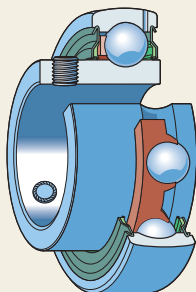

Fig. 10
- are available with an inner ring extended on both sides (fig. 10, bearing series YAR 2)